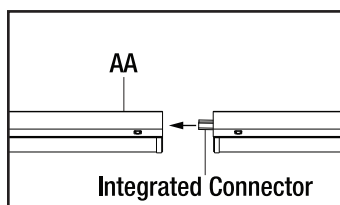

Fig. 1
- Connect each additional fixture using either the linking cable (FF) or end-to-end with integrated connector on the fixture. Connect end-to-end with integrated connector on the fixture (see Fig. 1) or insert the linking cable (FF) into the receptacle in the end of each fixture body (AA). When using the linking cable (FF), the maximum distance between two light fixtures is 12 inches.